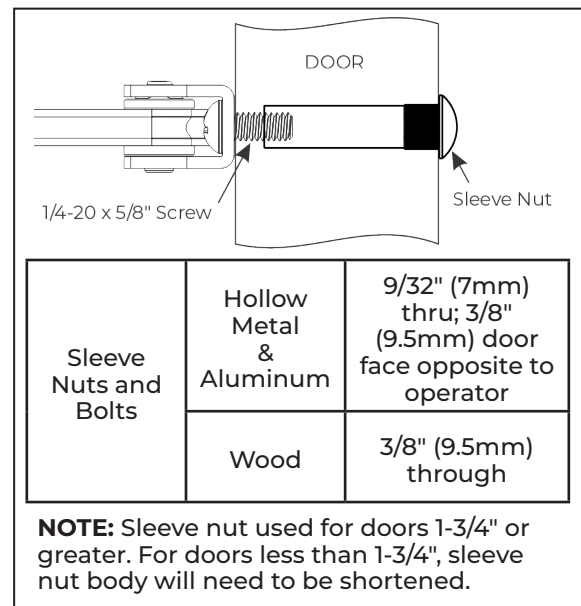

Figure 5
- Reference Figure 5 and use 1/4-20 x 5/8" screws with sleeve nuts.
- **For wood doors:** Reference Figure 5 and use 1/4-20 x 5/8" screws with sleeve nuts.